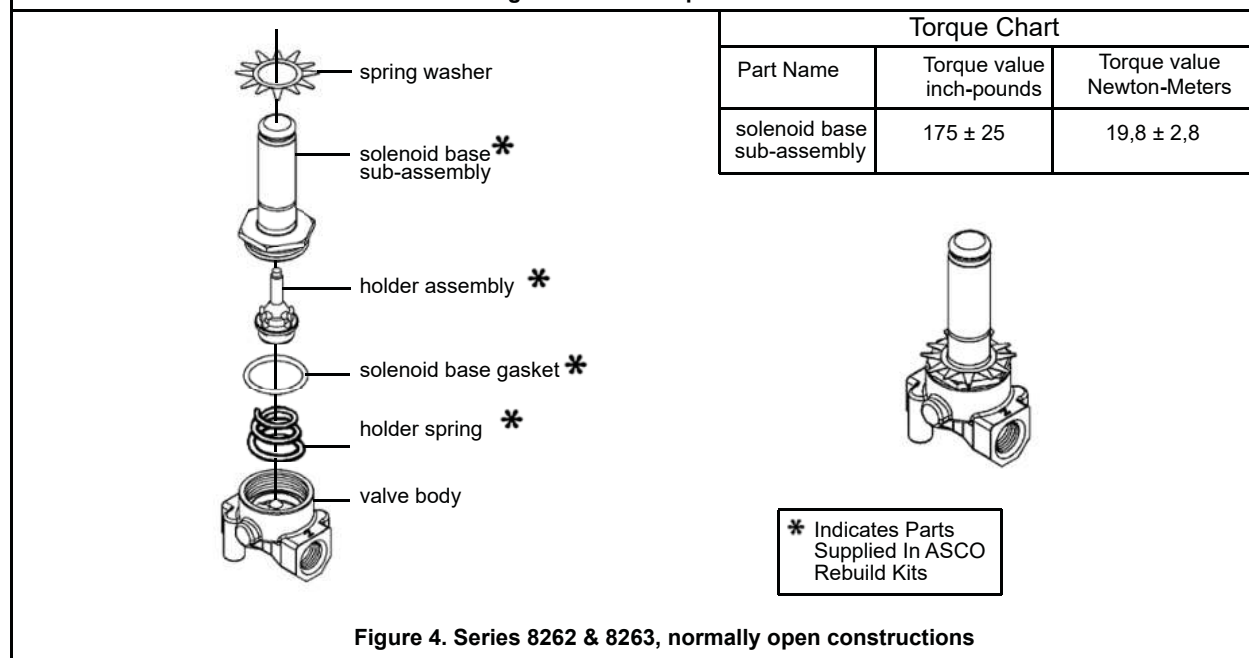

Figure 4. Series 8262 & 8263, normally open constructions
4. For normally open construction (Figure 4) remove spring and disc holder assembly.
3. For normally open construction (Figure 4), install disc holder assembly and disc holder spring.
- **Open-Frame Construction:** The green solenoid may be supplied with 1/4" spade, screw or DIN terminals. (Refer to Figure 4)